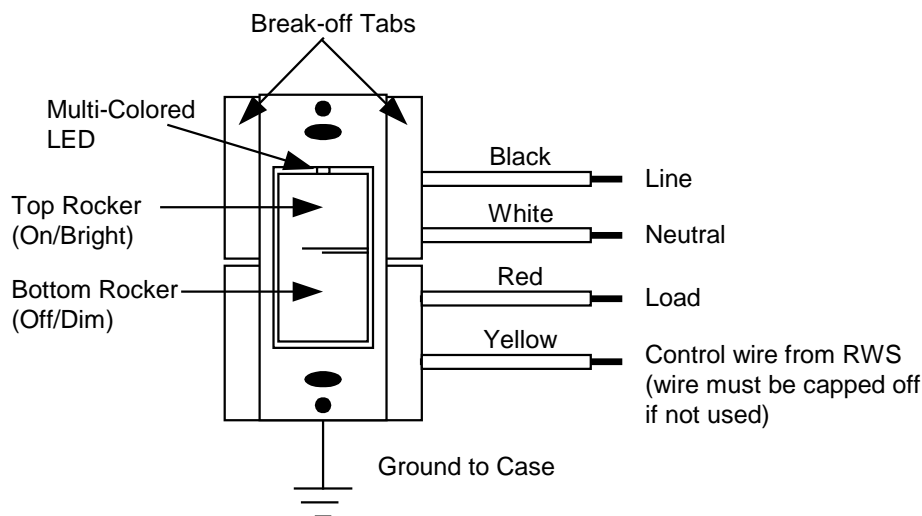

Figure 1: WS1E Wall Switch Dimmer
The WS1E Wall Switch Dimmer (Figure 1) is a high quality light-switch/ dimmer that not only allows for local rocker switch control of *electronic low voltage* AC lighting ballasts or transformers but also incorporates PCS's innovative UPB™ two-way powerline communication technology that gives it the ability to be remotely controlled by other UPB™ compatible controllers. The WS1E is highly configurable to allow for behaviors customized to each individual's desires. The WS1E is capable of storing up to 16 preset light levels and fade rates to create powerful lighting scenes. The WS1E is also capable of transmitting UPB™ messages (including a current light level report) when rocker switch events occur. The WS1E is capable of being set to a non-dimming mode in order to control such loads as fluorescent lights.
1. Refer to Figures 1 and 2 to determine the wire colors of the hook-up.
For a proper fit in a multiple gang installation, it may be necessary to remove one or both sides (break-off tabs) from the mounting plate (see Figure 1). When tabs are removed, the overall rating of the device must be reduced in accordance with the following chart: